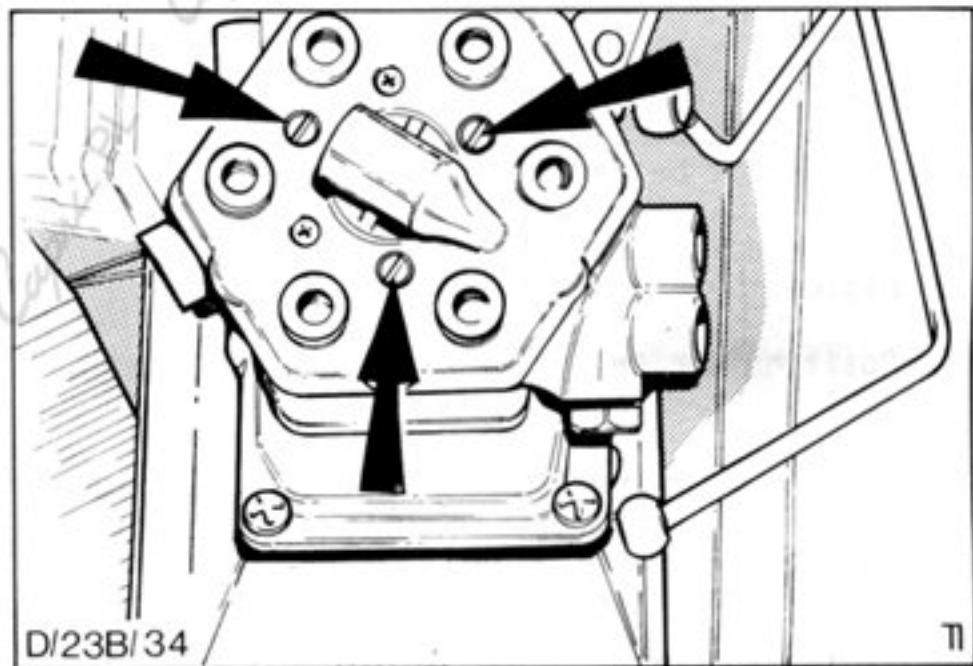

Fig.81. Distributor assembly securing screws.
5. Remove three screws and detach distributor assembly, Fig.81.